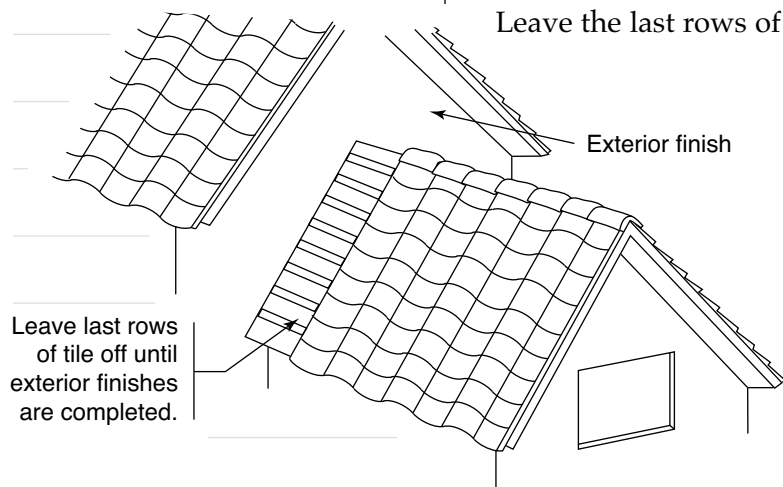

FIGURE 7
- ◆ Leave the last few rows of roof tiles unfinished until after all workers have completed exterior finishes, such as siding, stucco, painting, brickwork, etc. (see Figure 7).